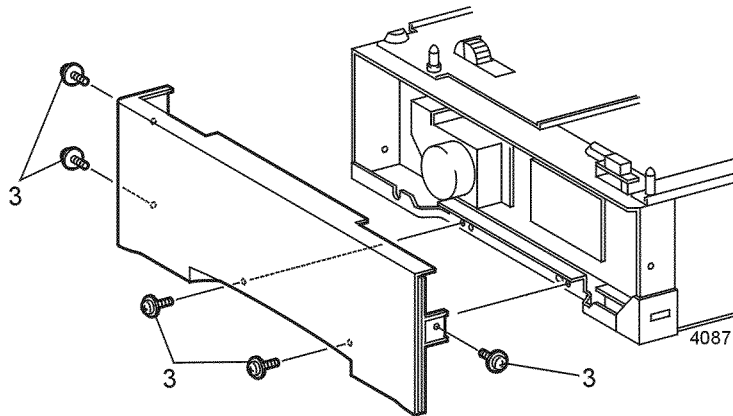

Figure 1 Left Cover
3. Remove the five screws that secure the Left Cover (Figure 1). Remove the cover.